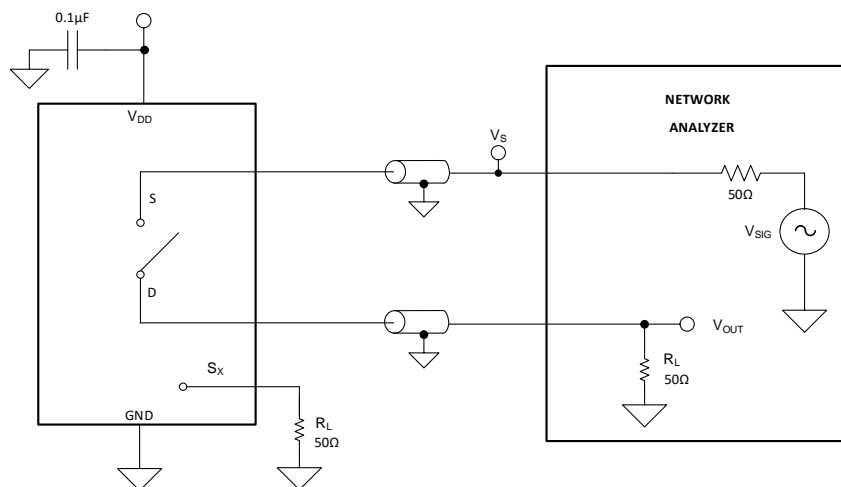

Figure 25. Off Isolation Measurement Setup
Off isolation is defined as the ratio of the signal at the drain pin (D) of the device when a signal is applied to the source pin (S_x) of an off-channel. Figure 25 shows the setup used to measure, and the equation used to calculate off isolation.